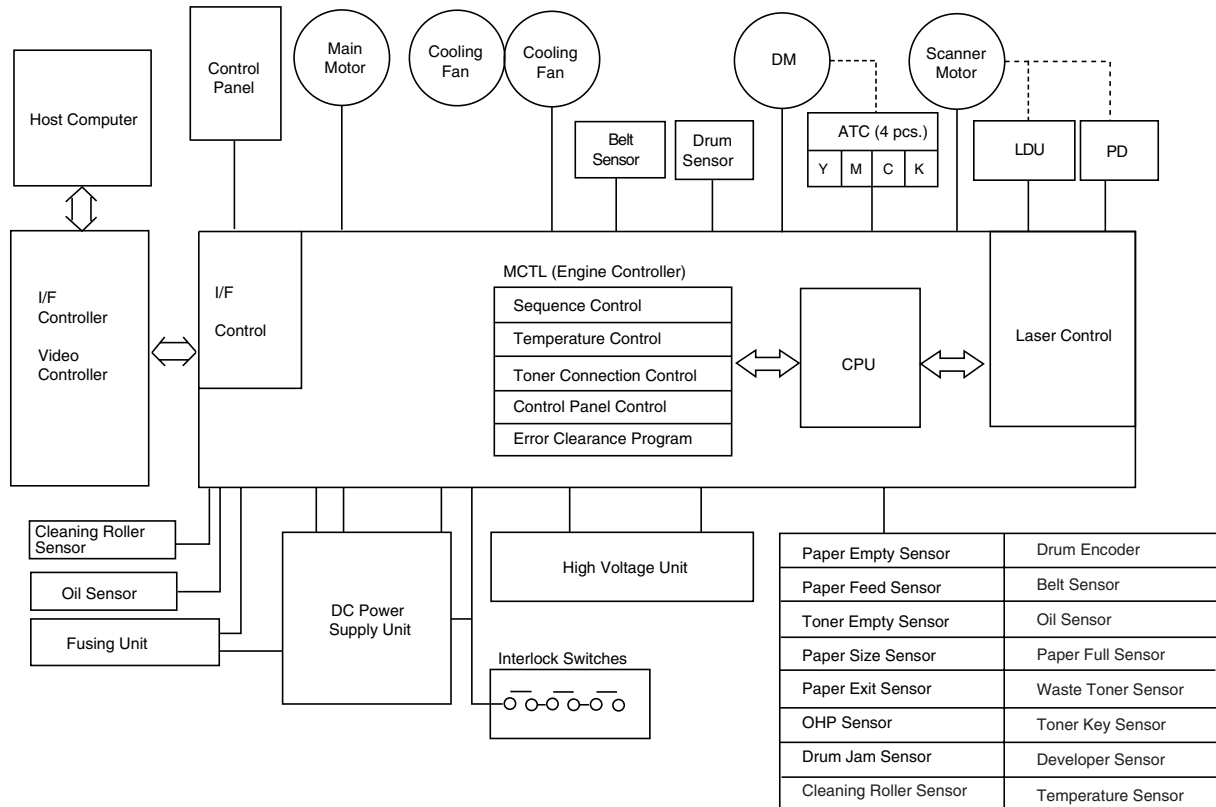

Fig. 4-33
(1) Control Block Diagram (Refer to Fig.4-33.)